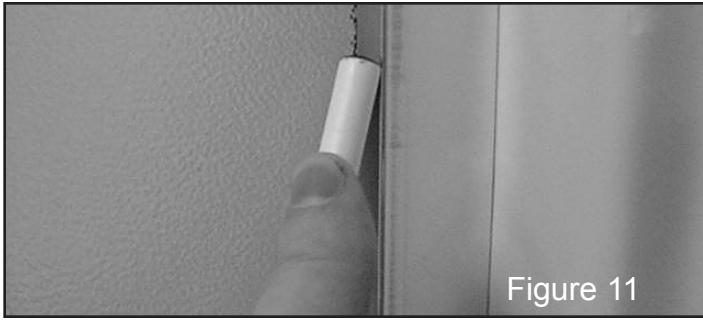

Figure 11
B. Push in the Horizontal Press-In Vinyl (#16) from the outside between the glass and the Bottom Curb/Sill (#2) and Header (#1). This task is made easier by using a pen (as shown in Figure 11) to push the vinyl into Bottom Curb/Sill (#2) and Header (#1). Cut square covering the full width of the panel opening. Push the Vertical Press-In Vinyl (#17) from the outside between the Wall Jamb (#6) and the Insert Jamb (#3).